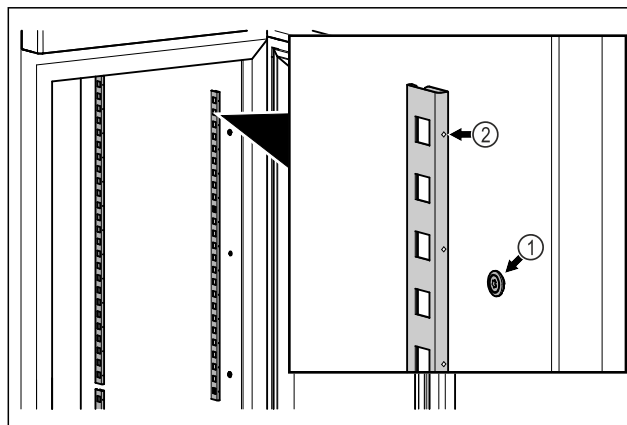

Fig. 17 Example illustration
- ▶ Hook the snap strips into the suspension Fig. 17 (1). Mark Fig. 17 (2) must point forwards.